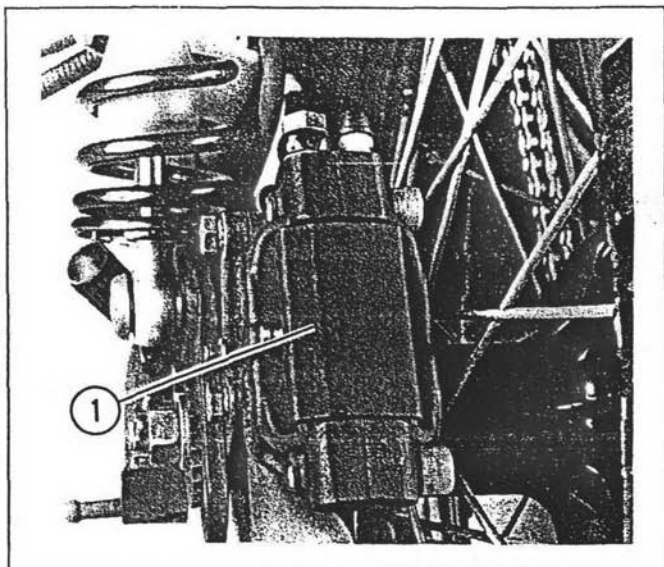
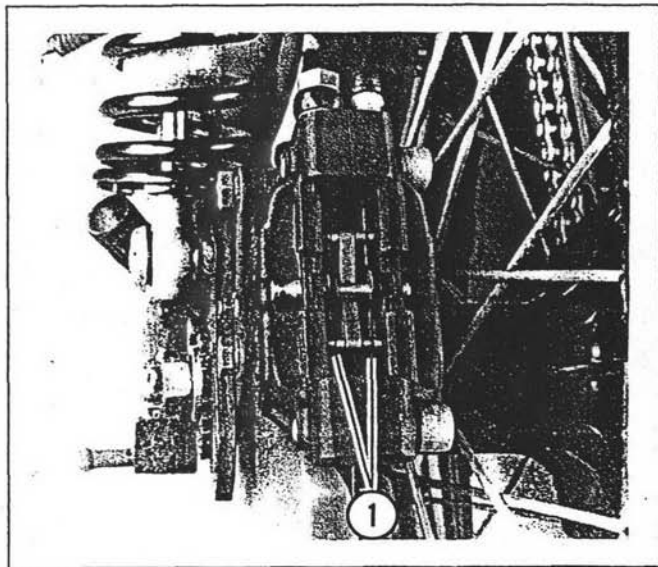

Figure 2-32. Rear Caliper Cover
Figure 2-33. Rear Brake Pad Cover Removed
4. See Figure 2-32. Using a flat tip screwdriver, pry off cover (1), from rear brake caliper. See Figure 2-33. Check pads (1) for thickness. If either pad is less than 1.6 mm (1/16 in.) thick or if pads are worn unevenly, refer to *Service Manual* for repair procedures. Install cover.